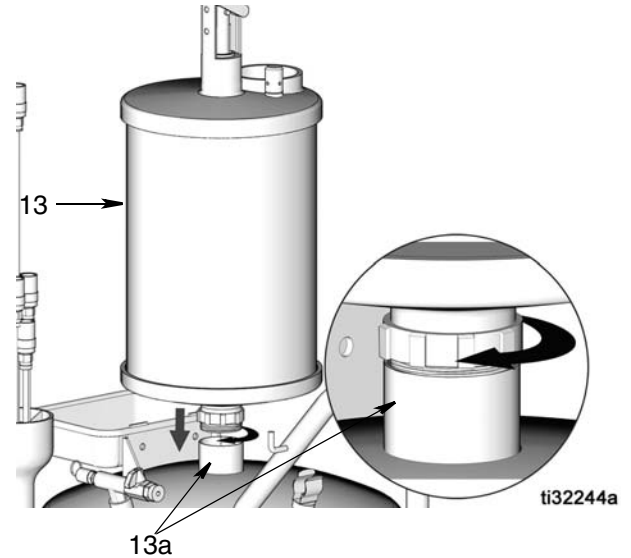

FIG. 9
6. Install the chamber (13) to the tank adapter (13a) as shown in FIG. 9.